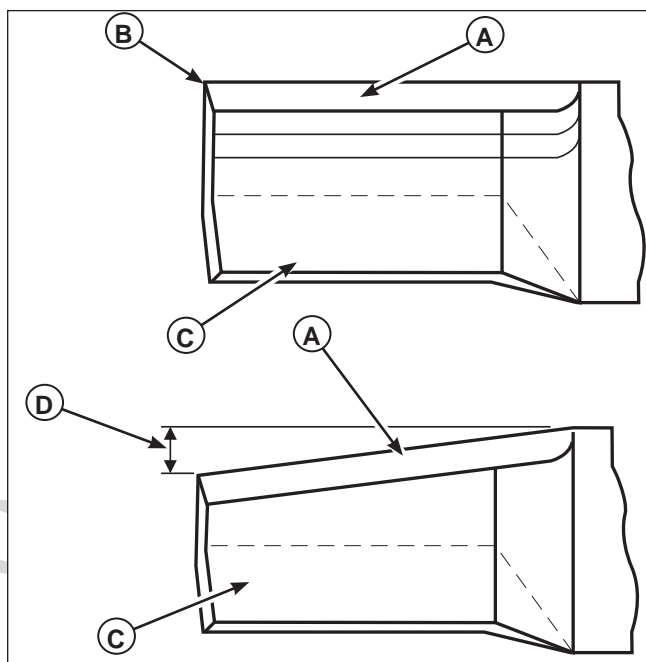

Figure 23. Inspecting the Mower Blade Tips
2. Inspect the mower blade (Figures 23 & 24). Discard the mower blade if it has any of the below conditions:
- A.) Has more than .5" (12,7 mm) of the mower blade metal removed from previous sharpening or wear (D, Figure 23).